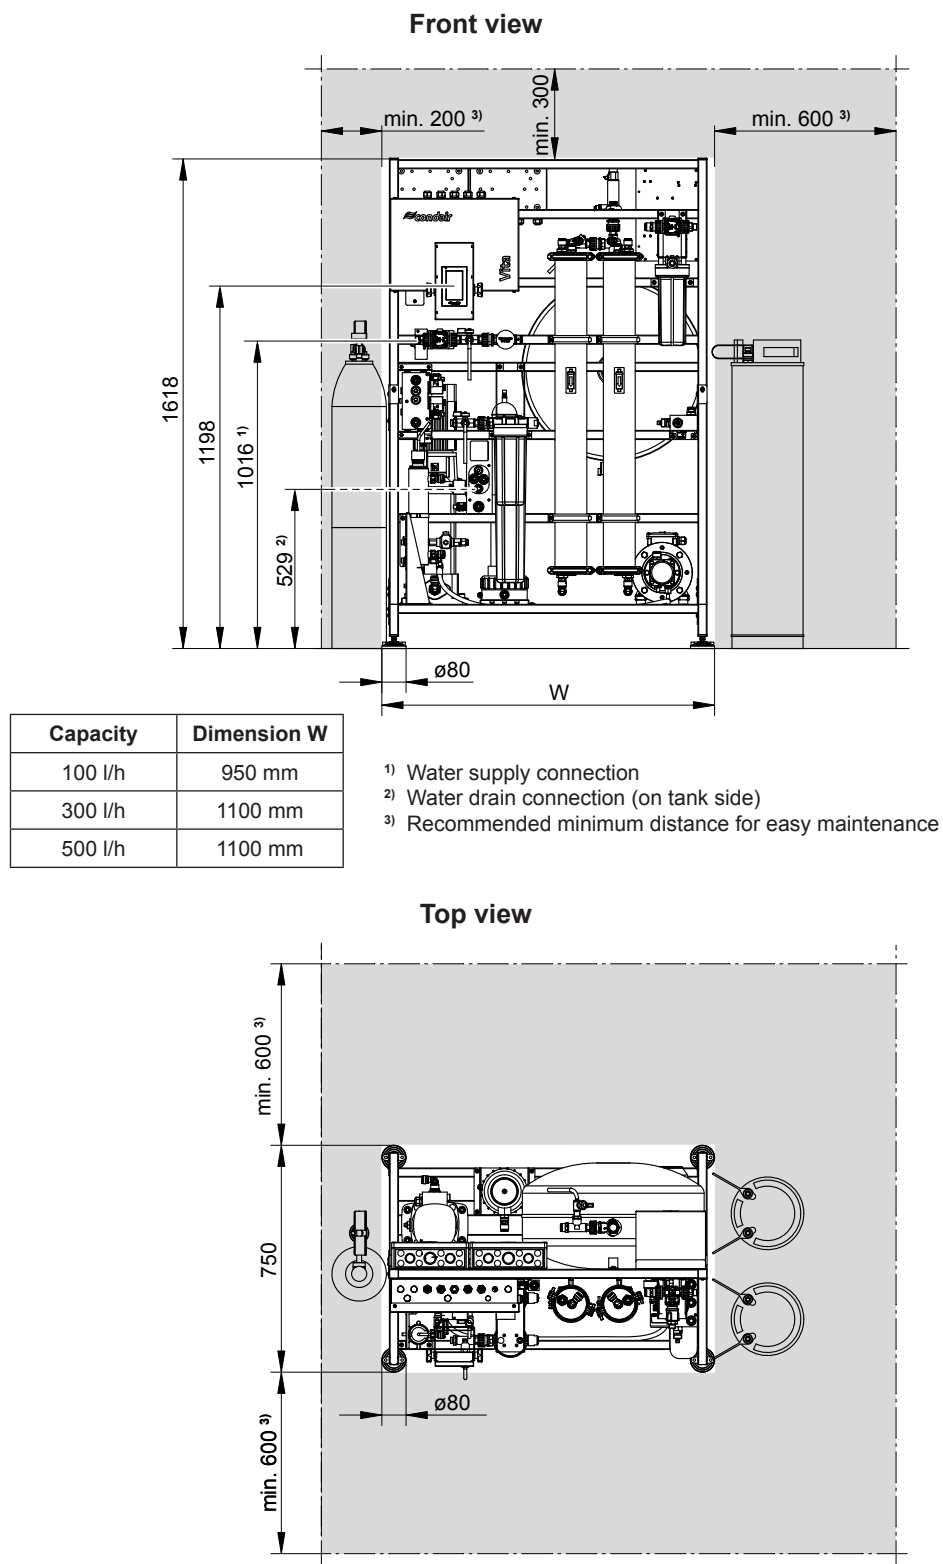
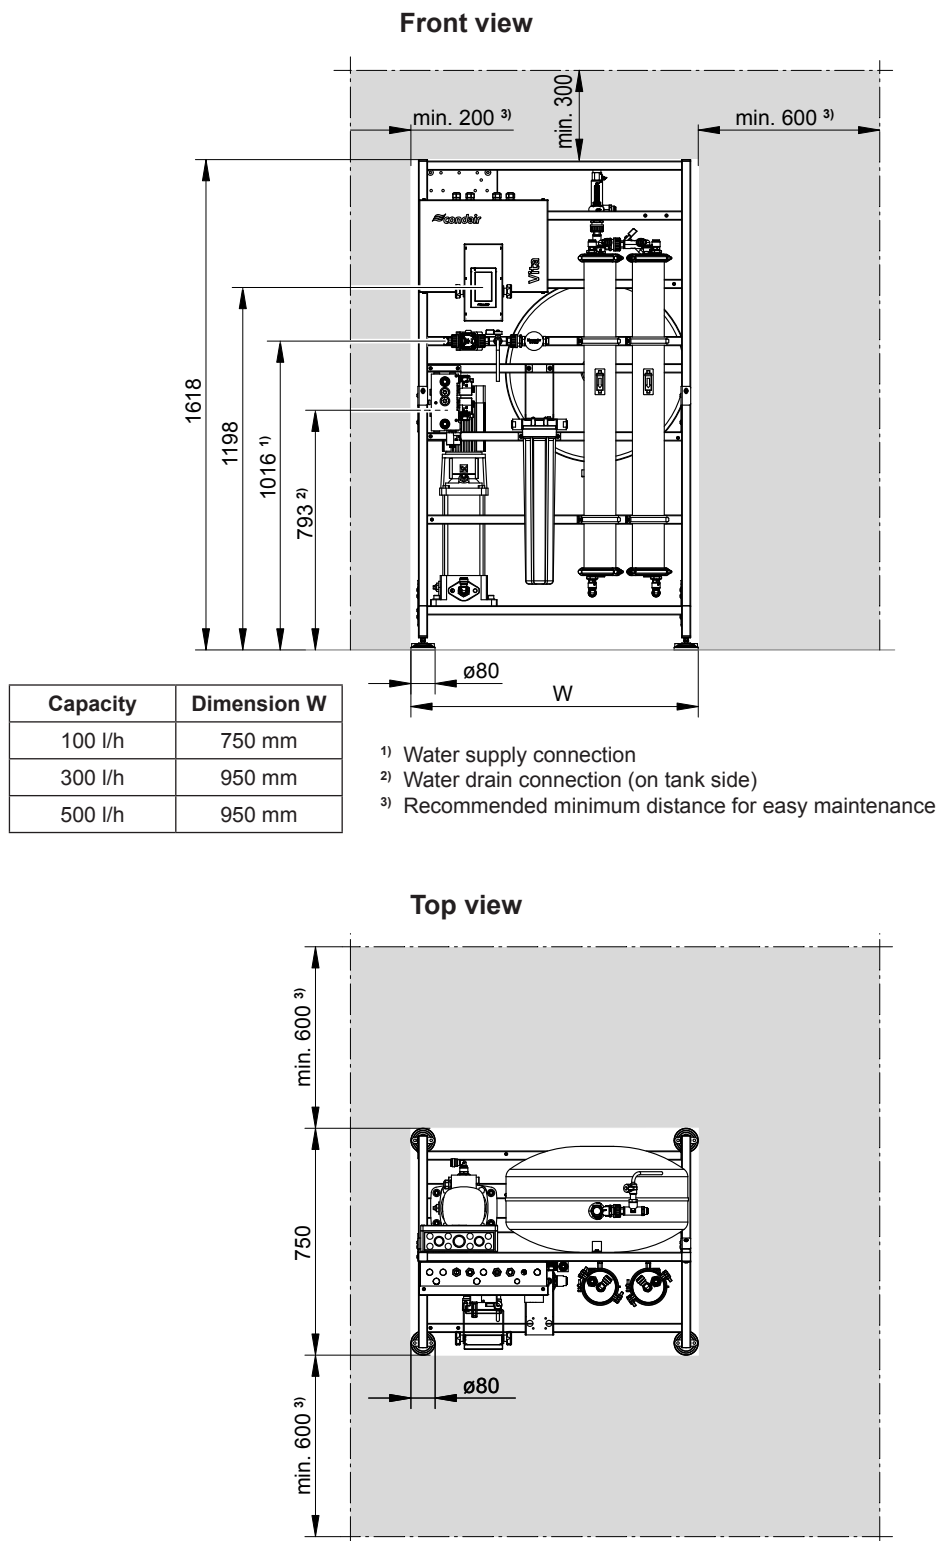

Fig. 5: System dimensions / recommended distances Vita Power RO-DI-CO-UV-HP (dimensions in mm)
Fig. 8: System dimensions / recommended distances Vita Power RO (dimensions in mm)
Note: The following description for installing the Condair Vita Power applies to all models. Please observe the system dimensions and the recommended distances of the individual models (see Fig. 5 to Fig. 8).
1. Place the Condair Vita Power on the floor at the desired location in the room, observing the minimum recommended distances (see Fig. 5 to Fig. 8).